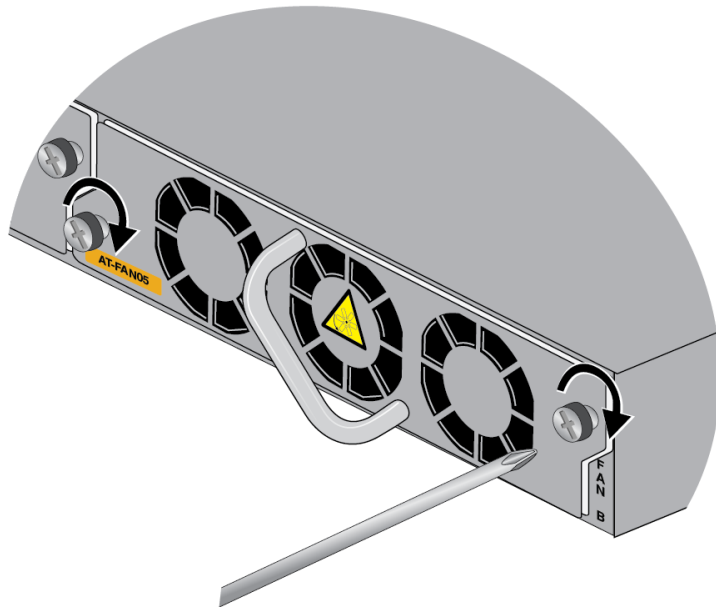

Figure 157. Tightening the Two Captive Screws on the FAN05 Module
4. Tighten the two screws on the module to secure it to the switch. Refer to Figure 157.